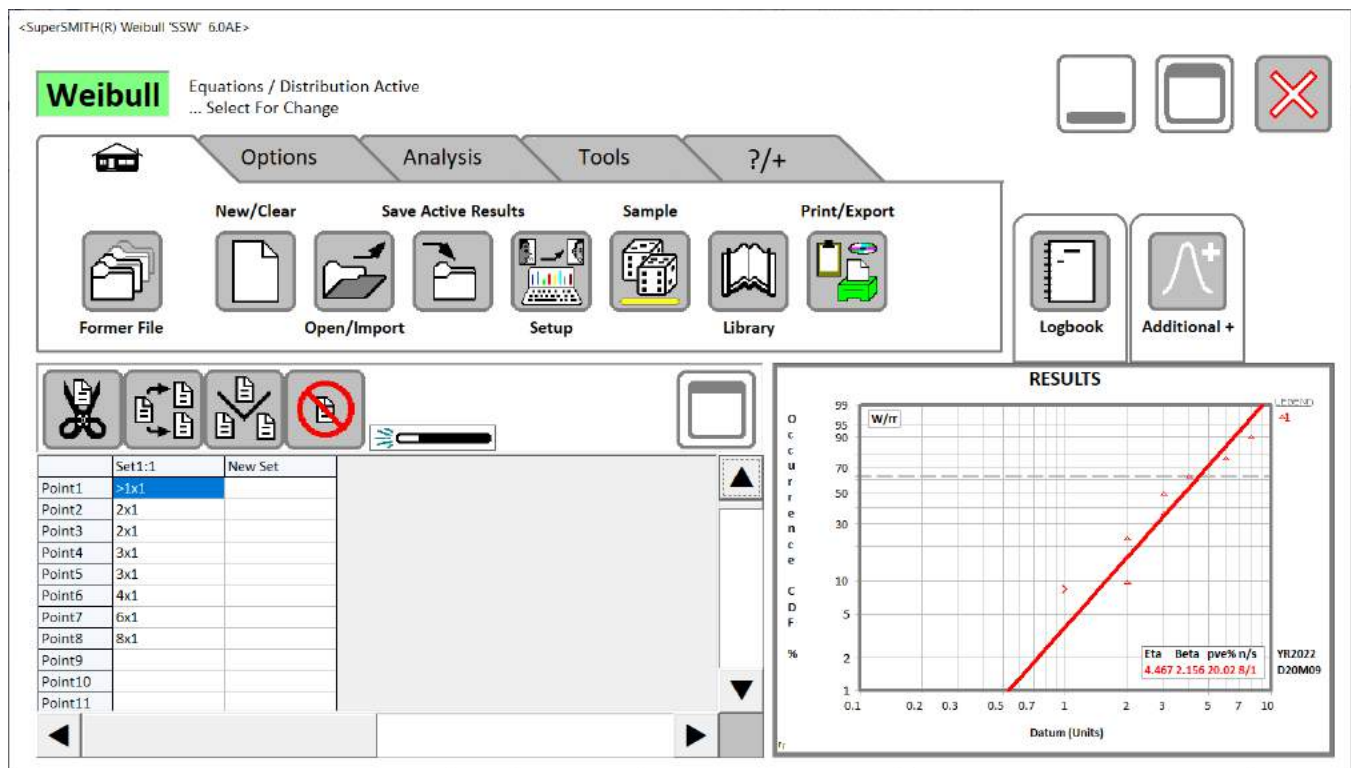

Figure 2: New SuperSMITH Weibull Main Screen Icon Layout.
**DIRECT INSTALL:** Power up the PC (Windows or simulator). Have the SS **setup.exe** and other installation files available. Load onto the PC by running **setup.exe** and following the prompts. After install, within the SuperSMITH group, select the SuperSMITH Weibull program. This is the SMITHW.EXE file or the icon showing plotted data with fit and confidence lines. Initially select “Yes” to agree to usage conditions, and automatically advance to the Main Screen (Figure 1 below shows the former icon layout, Figure 2 on the next page shows the new icon layout).
Use single selecting (single touching for touch screens) mostly in SuperSMITH. Double selecting is discouraged to minimize hand stress. We will be using life data mostly for illustration, but any type of measured data with variability can be analyzed. **For this tutorial if using the DEMO software, all input data must only be loaded from a file previously saved by a FULL SuperSMITH software program (provided with the software).** If using the FULL software, this is not a concern but maybe easier to do. All file names shown here are on a single text line for easy copying. Reminder: Figure 1 shows the new SSW icon layout for standard pointing device use, and Figure 2 shows an optional larger icon layout with tabs for touch screen use.
Start the SSW software by choosing Start from the Windows™ Main Screen, then the SuperSMITH group, then Weibull. On first use, select “Yes, I agree...” if you are asked and if you agree to the software use terms. You should see the Main Screen (Figure 2 below) with equation label (“Weibull” at first), some tabs, some icons, a data grid and a results box.
- B. A probability plot should appear. Select the plot to enlarge. The plot should resemble the one in Figure 2. Your solution should indicate  $\text{Eta}=4.467$ ,  $\text{Beta}=2.156$ . If not ... check the data and/or reset the method to Weibull “rank regression” standard. Select the full-window plot or use the <ESC> key to shrink the plot which will take you back to the Main Screen.